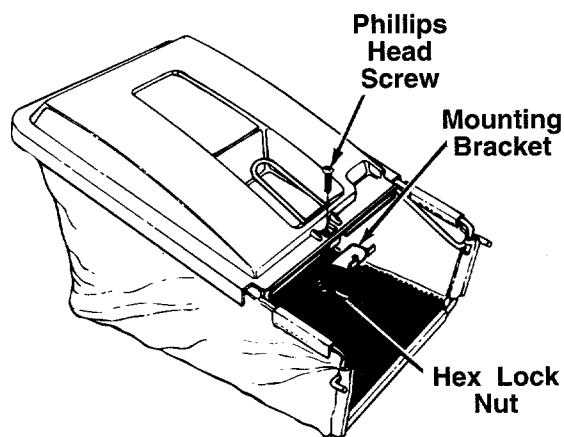

FIGURE 6.
6. Place the mounting bracket under the front of the handle, with the tabs on the bracket facing up. Insert phillips head screw down through the hard-top cover and mounting bracket. Secure with hex lock nut. See figure 6.